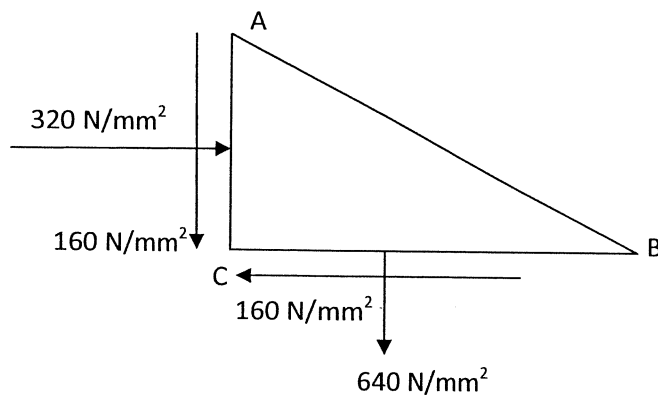

Fig.Q2
- b) At a point in a strained material, on plane **BC** there are normal and shear stresses of  $640\text{ N/mm}^2$  and  $160\text{ N/mm}^2$  respectively. On plane **AC**, which is perpendicular to **BC**, there are normal and shear stresses of  $320\text{ N/mm}^2$  and  $160\text{ N/mm}^2$  respectively. These stresses are shown in Fig.Q2. Determine the following: